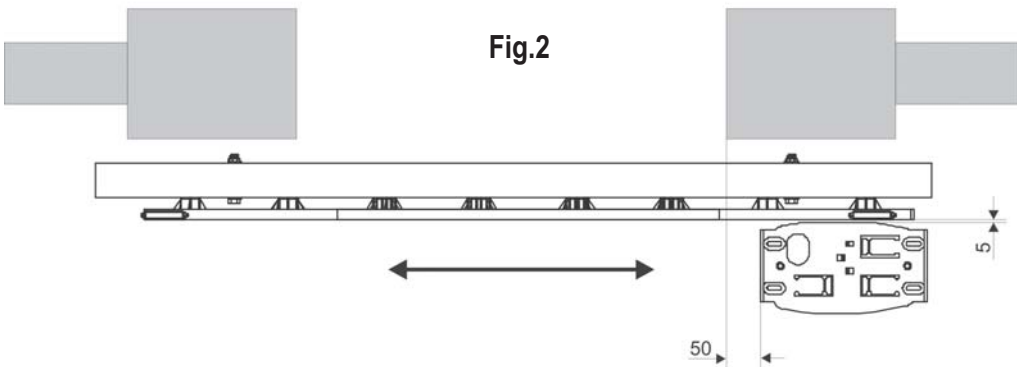

Fig.3
- Place the base plate on the concrete base, complying with the dimensions shown in fig. 2 and fig. 3.
- Pour the concrete in the hole and place the base plate by complying with the dimensions shown in fig. 2 and fig. 3.